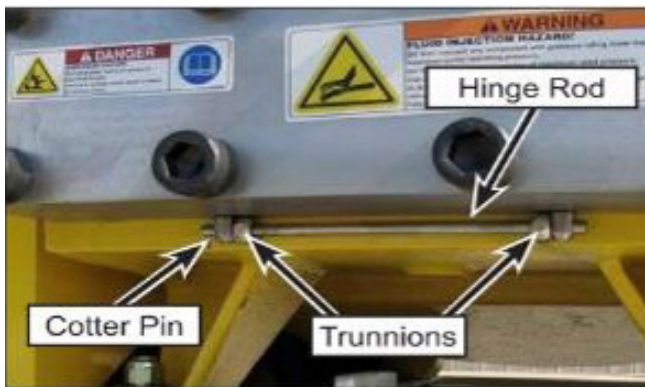

Figure 2: Hinge Rod, Trunnions, and Cotter Pin
- f. Remove the cotter pin from the hinge rod and remove the rod (Figure 2).